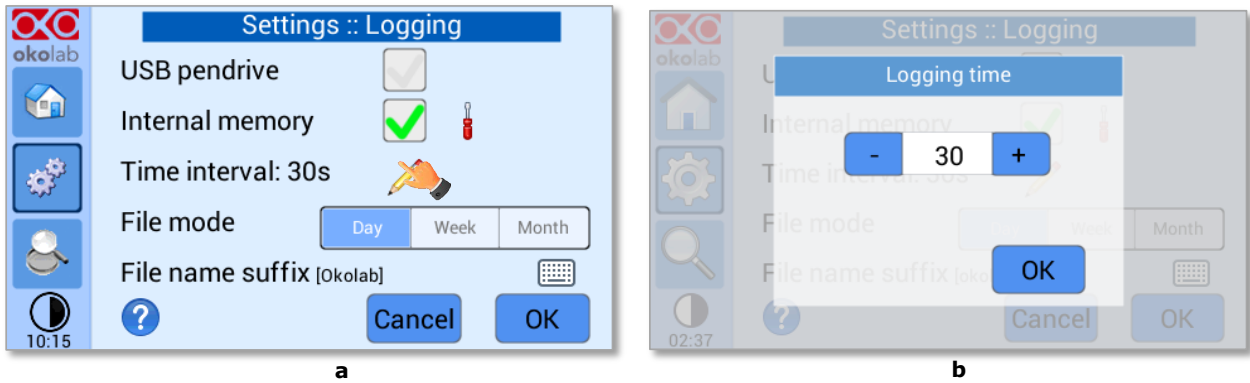
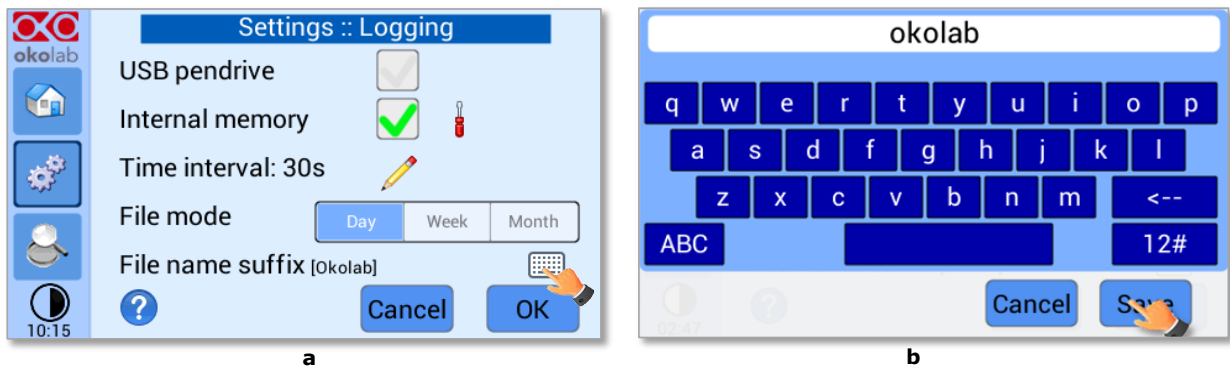
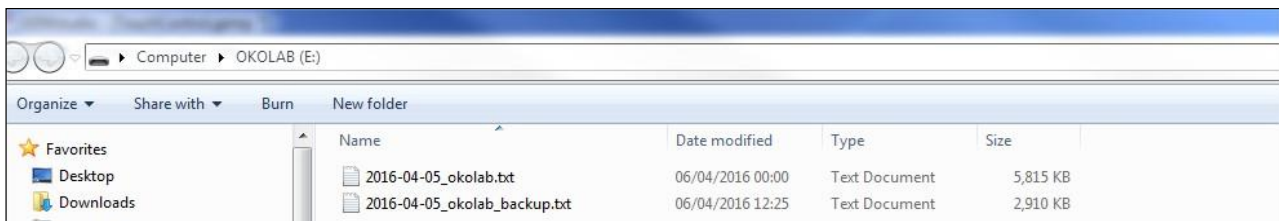

Figure 72. Settings – Logging – Logging time (a – b).
Figure 73. Settings – Logging – File name suffix (a – b).
Figure 74. Downloaded files on the pen drive.
3. Press on the icon  to insert the *Time Interval* i.e. the frequency with which you want to record a data point, as shown in Figure 72. In this example a data point is logged every 30 seconds, you can change *Time Interval* in the range 1-60 seconds.
- Choose how you want to organize the data when downloaded, by pressing on Day, Week or Month, see Figure 72 a.
- Write the file name suffix to be reported in the downloaded files by pressing on the keyboard icon , see Figure 73 a.
- Press Save, see Figure 73 b.
Tip ► With the selections as in Figure 72 and in Figure 73, the data will be downloaded on the USB drive as shown in Figure 74.